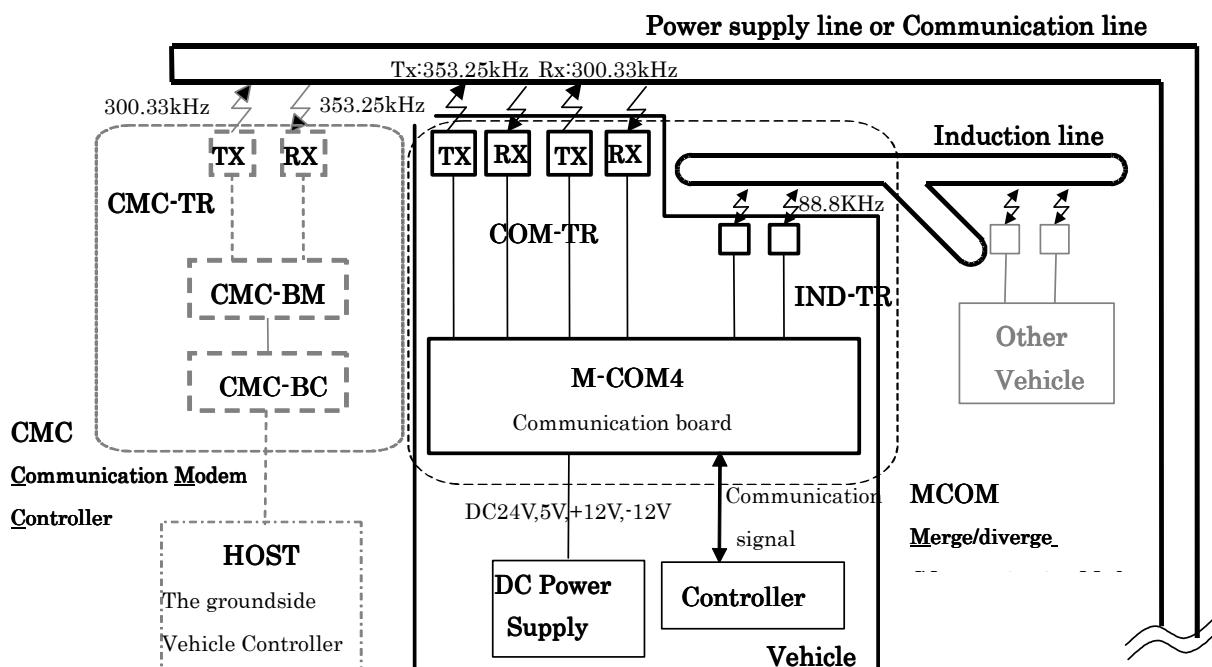

Fig. 1 Basic configuration of MCOM
**Fig. 1** and show the basic configuration of MCOM.